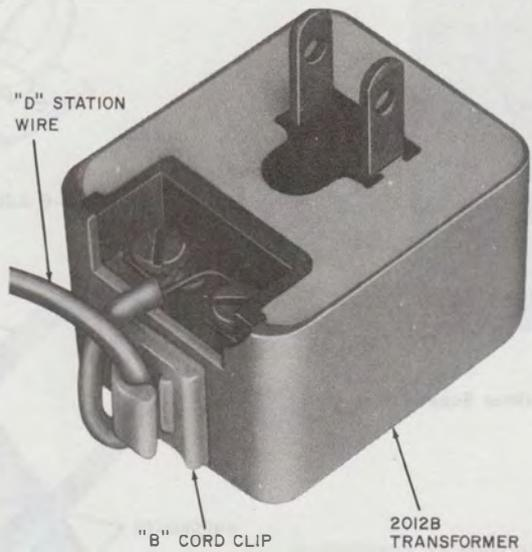

Fig. 8—Cord Clip Used to Secure Station Wire to 2012B Transformer
**8.03** Remove protective paper from adhesive of B cord clip and stick clip to bottom of 2012-type transformers as shown in Fig. 8. Terminate D station wire on screw terminals of 2012-type transformer and hook station wire through B cord clip as shown in Fig. 8.♦